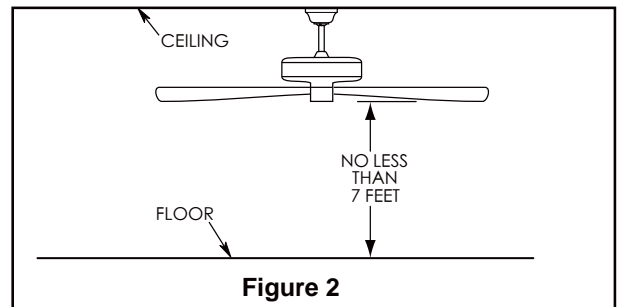

Figure 2
Your new ceiling fan will require a grounded electrical supply line of 120 volts AC, 60 HZ, 15 Amp Circuit. Electrical code requires use of a fan-rated outlet box to support the extra weight and motion associated with a ceiling fan. A fan-rated box will be labeled as such and typically supports up to a 70lb ceiling fan. Fan-Rated Outlet Boxes vary in ratings and design. Ensure the ratings of your ceiling fan outlet box meet the requirements for the ceiling fan being installed. Figure 1, Figure 2 and Figure 3 depicts different structural configurations that may be used for mounting the outlet box.
Deep box (Figure 2)
The fan must be hung with at least 7' of clearance from floor to blades. (Figure 2)
To avoid possible electrical shock, be sure electricity is turned off at the main fuse box before wiring (Figure 2).
- 2. Securely attach and tighten the canopy screw cover over the shoulder screws in the hanger bracket utilizing the keyslot twist-lock feature. (Figure 2)
2. Assemble the light kit to the motor assembly support bracket using the two key slots in the light kit. Replace the previously removed screw and securely tighten all three screws. (Figure 2)
- 2.** Restore electrical power to the outlet box by turning the electricity on at the main fuse box. (Figure 2)